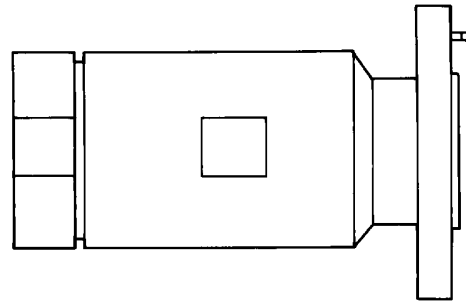

Figure 25. Typical EIA Series Connector
55. **Series EIA Connectors.** These connectors are large, flange mount connectors for use with semi rigid corrugated cables (Figure 25).